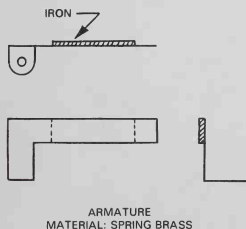

Fig. 18-28. Detailed plan for induction coil armature.
6. The construction of the armature and points is illustrated in Figs. 18-28 and 18-29.